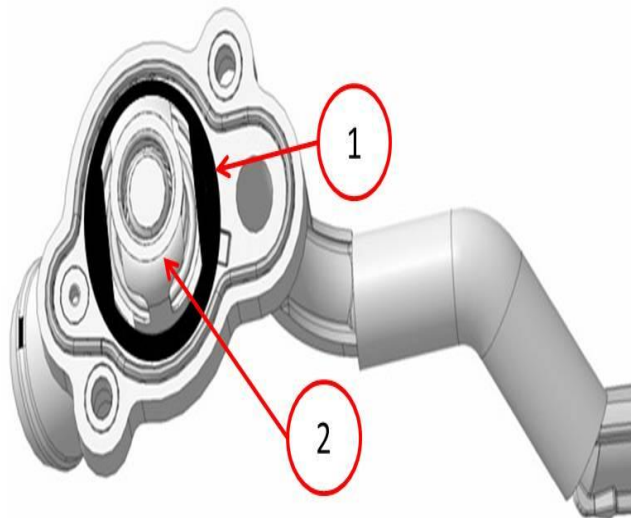

Fig. 1 Shim
2. Install shim over the thermostat (Fig. 1).
- 2. Install shim following the instructions included with the part (Fig. 1).